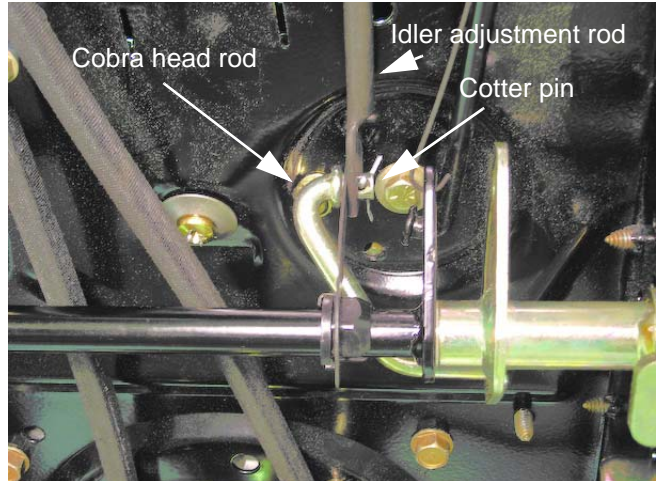

Figure 5.40
5. Remove the cotter pin securing the idler adjustment rod to the cobra head rod on the drive pedal bracket assembly. See Figure 5.40.